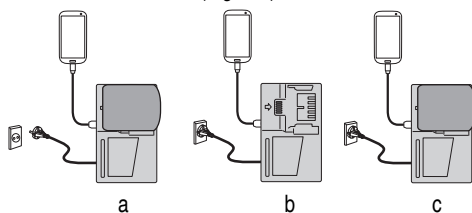

Fig. 8
- Charging a USB device by battery (Fig. 8-a)
- Charging a USB device from a electrical outlet (Fig. 8-b)
- Charging a USB device and battery from a electrical outlet (Fig. 8-c)